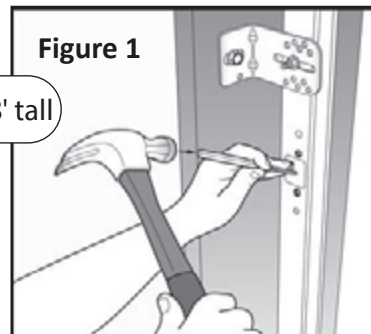
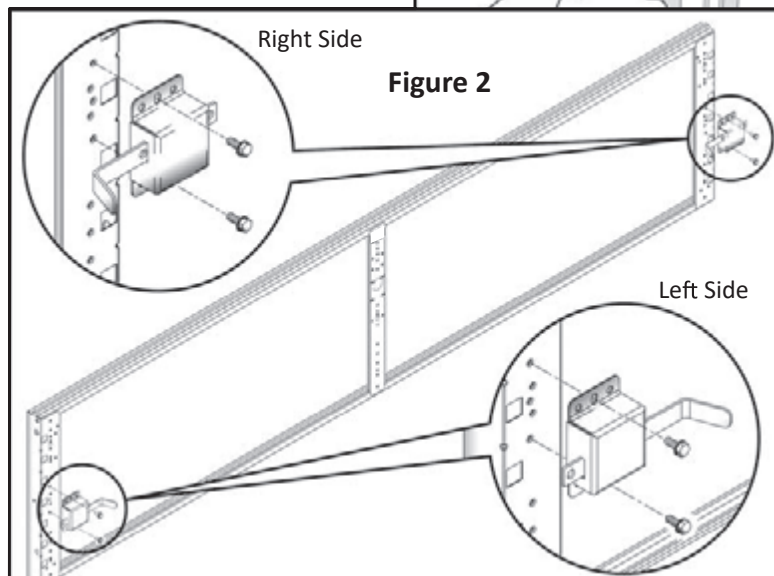

Figure 2
Figure 3
Step 2: With your door in the fully closed position, locate your lock so that the slide will line up with the center of this rectangular hole (Figure 3 & 4). Securely fasten the Slide Lock to the 2nd section with (2) 1/4"x5/8" TEK Screws (Figure 2). You may need to pre-drill 3/32" pilot holes if holes in the section do not line up with this location.
Step 3: With your door in the fully closed/down position, test the Slide Lock for ease of operation. Adjust the lock up or down if necessary (Figure 3 & 4).
Step 2: Mark your first piece of Perimeter Seal for cutting (Figure 2).
Step 3: Using a Hack Saw (Figure 3), carefully cut the Perimeter Seal to length.
Step 7: Using a Hack Saw (Figure 3), carefully cut the Perimeter Seal to length.